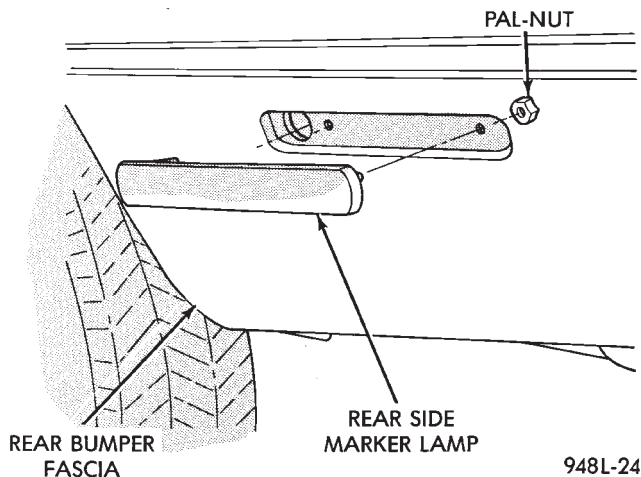

Fig. 6 Rear Side Marker Lamp
- (1) Remove rear side marker lamp bulb and socket.
- (2) Remove nuts holding rear side marker lamp to rear bumper fascia (Fig. 6).
- (3) Separate rear side marker lamp from vehicle.